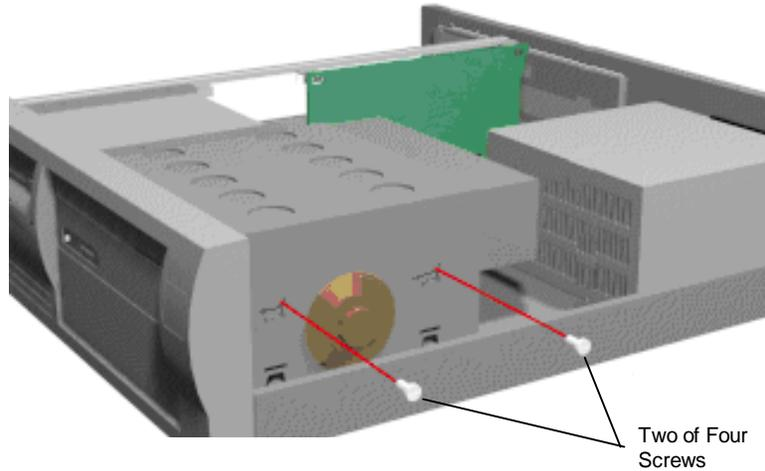

Figure 3-24 Securing the Device
7. Secure the device to the cage with the four screws, two to a side, that come with the device (see Figure 3-24).